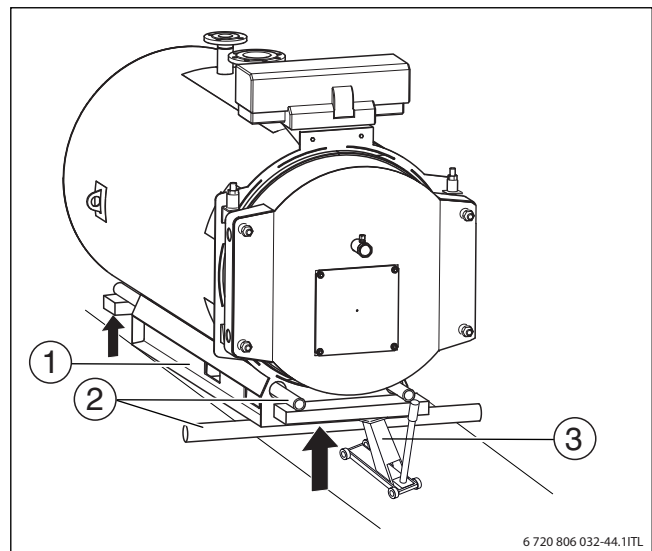

Fig. 11 Transporting the boiler on rollers
- ▶ Insert pipes (→ Fig. 11, [2]).